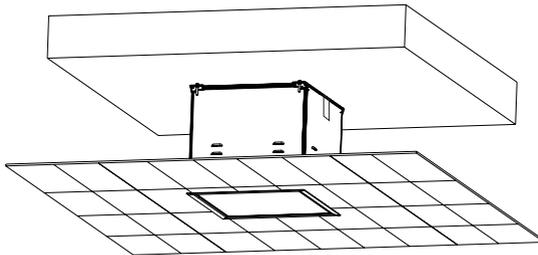

figure 9
- Figure 9 - cut the ceiling board (Step 1) to a suitable size which will maintain the gap after retraction of the projector lift